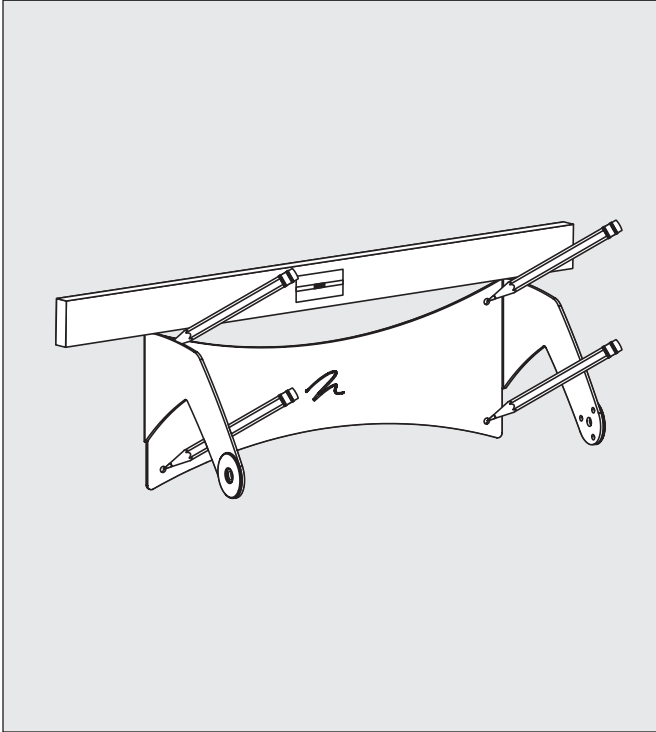

**Figure 4.** Remove the stand from the speaker.
- 3 Remove the stand/wall-bracket by completely unscrewing the two large knobs (figure 4).